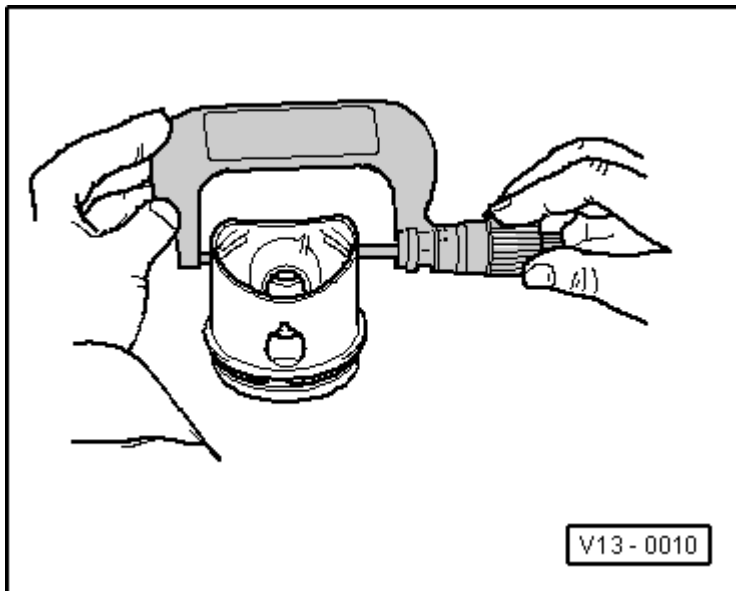

Fig. 16: Identifying Check Of Piston
- Checking, refer to **Fig. 16**.